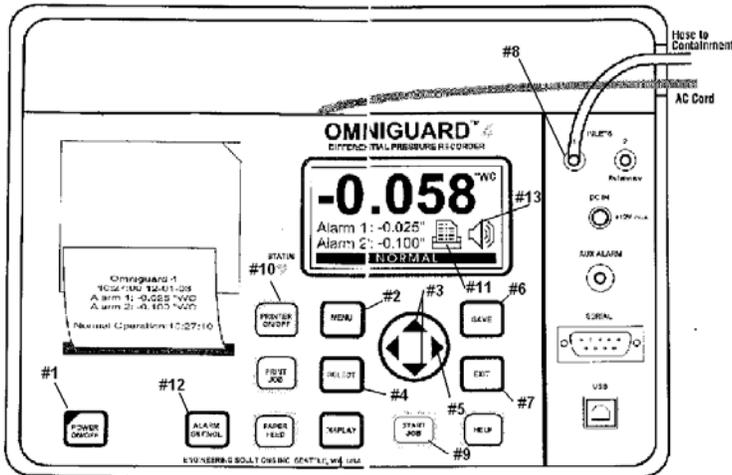

Figure 1: Schematic of OmniGuard 4
- Plug unit into extension cord or connect to portable battery and power on by pushing the "POWER ON/OFF" key (See Figure 1, #1).
- Press the "MENU" (See Figure 1, #2) button to view the main menu.
- Scroll to the "ALARM SETPOINTS" option using the up and down arrow keys (Figure 1, #3) and press the "SELECT" (Figure 1, #4) button.
- Use the up and down arrow keys (Figure 1, #3) to change the Alarm 1 set point. Note that you
can only change the values in increments of 0.005 inches of water column. Set the Alarm 1 set point to -0.245 inches of water column. Once the alarm is at the appropriate value, press the right arrow key (Figure 1, #5) to move to the Alarm 2.
- Set the Alarm 2 set point using the up and down arrow keys (Figure 1, #3). The Alarm 2 set point should be set to -0.005 inches of water column. Once the appropriate value is selected, press the "SAVE" (Figure 1, #6) key to return to the main menu.
- Scroll through the menu using the up and down arrow keys (Figure 1, #3) until the "PRINT/LOG RATES" is highlighted. Press the "SELECT" (Figure 1, #4) button.
- Use the up and down arrow keys (Figure 1, #3) to change the "NORMAL RATE". Set the "NORMAL RATE" to 5 minutes. Once the 5 minute option is highlighted, press the right arrow key (Figure 1, #5) to move to the "ALARM RATE".
- Use the up and down arrow keys (Figure 1, #3) to change the "ALARM RATE". Set the "ALARM RATE" to 120 seconds (2 minutes). Once the appropriate value is highlighted, press the "SAVE" (Figure 1, #6) key to return to the main menu.
- Scroll through the main menu using the up and down arrow keys (Figure 1, #3) until the "RESPONSE RATE" option is highlighted. Press the "SELECT" button (Figure 1, #4).
- Use the up and down arrow keys (Figure 1, #3) to scroll to the appropriate
rate. The “RESPONSE RATE” should be set to “SLOW”. Once the “SLOW” option is highlighted, press the “SAVE” (Figure 1, #6) key to return to the main menu. Document what the response rate was set to on the system parameter form.
5. Press the “EXIT” (Figure 1, #7) button on the data logger to return to the main screen.
6. Connect one end of the tubing to “Inlet 1” (Figure 1, #8) on the data logger, and connect the other end to the monitoring point.
- a. Press the “START JOB” (Figure 1, #9) key on the data logger.
- b. Enter the name of the location where the data logger is being installed using the up and down arrow keys (Figure 1, #3). Once the name is complete, press the “SAVE” (Figure 1, #6) button. This will start the current data logging job.
- a. Press the “PRINTER ON/OFF” button (Figure 1, #10) on the data logger. Confirm that the printer is off by checking the printer symbol on the main screen (Figure 1, #11); it should have an X
through it. If it does not, press the “PRINTER ON/OFF” (Figure 1, #10) key until there is an X through the symbol.
- a. Press the “ALARM SILENCE” (Figure 1, #12) key on the data logger. Confirm that the audible alarm is off by checking the sound symbol on the main screen (Figure 1, #13); it should have an X through it. If it does not, press the “ALARM SILENCE” (Figure 1, #12) key until there is an X through the symbol.